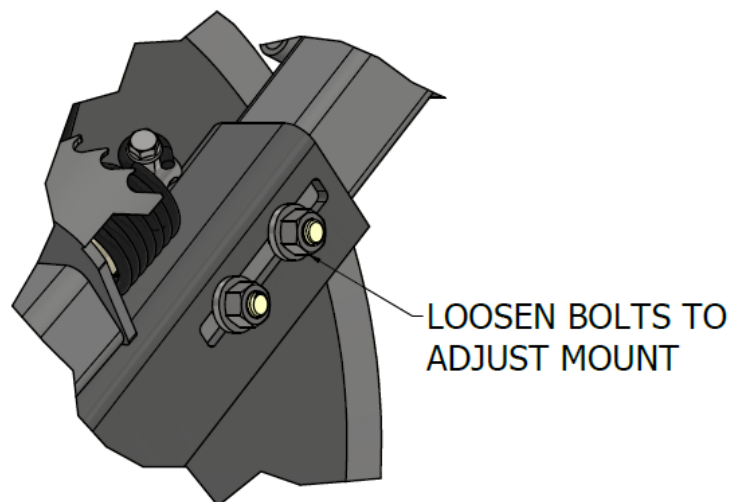

Figure 12: Loosen bolts to adjust the mount
- 6) To complete the adjustment of each scraper, loosen the bolts holding the mounting bracket to the row unit shown in Figure 12.